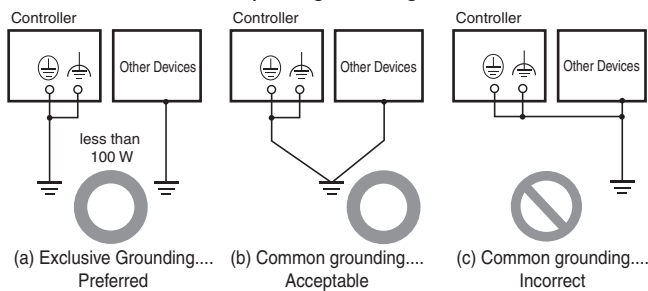

Figure 12. Grounding Methods
- (1) Use Ground to 100 W or less, and use independent ground which is separated from the grounding of other devices (See Figure 12 (a))
- (2) If using an independent ground is not possible, then use a common ground as shown in Figure 12 (b). Connect to the ground pole of the other device.
- (3) Never connect to the same ground as a device that draws a large amount of power, such as a motor or inverter. Ground the devices separately to avoid mutually adverse influences.
- (4) To prevent electrical shock, do not connect to ground poles (especially steel frames) to which multiple devices are connected.
- (5) As much as possible keep the grounding pole close to the Controller, and keep the grounding line short.